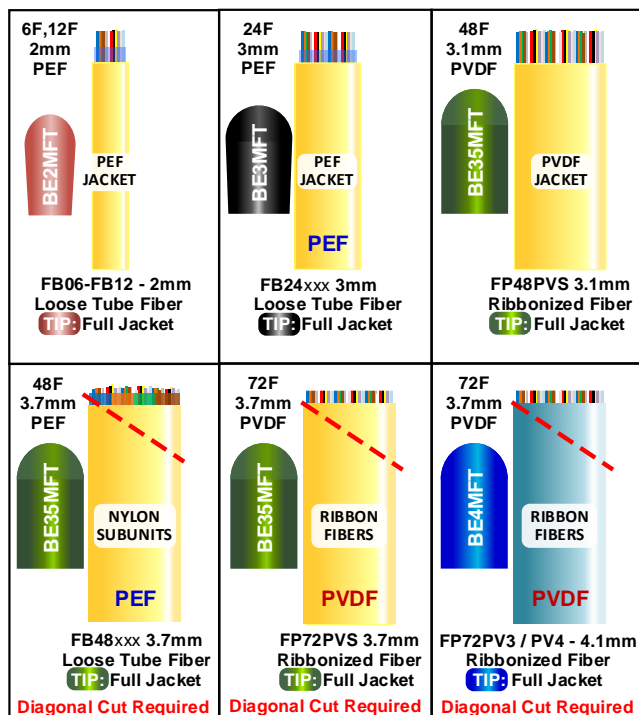

Figure 23
11.2 Screw correct type/size Fiber Bundle Blowing Tip onto end of Fiber Bundle. Ensure Blowing Tip is threaded on straight and firmly attached. See **Figures 23 & 23a**
Note: The Small Red Blowing Tip is used on 2mm OD Fiber Bundles. The Black Blowing Tip is used on 3mm OD Fiber Bundles. The Green Blowing Tip is used for 3.1 & 3.7mm OD Fiber Bundles. See **Figure 23**